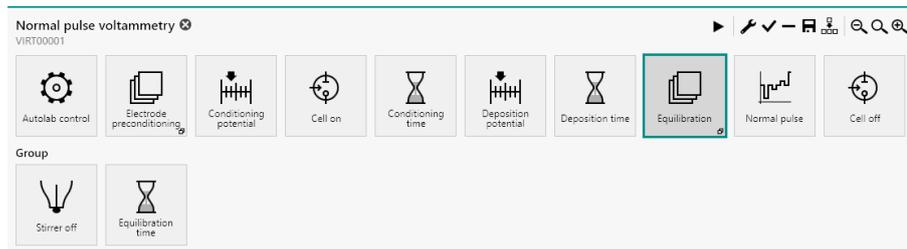

Figure 634 The Equilibration group
- Equilibration:** this command group is used to create an equilibration step in the procedure. The commands in this group are used to switch the stirrer off and wait for the specified amount of time (see figure 634, page 536).